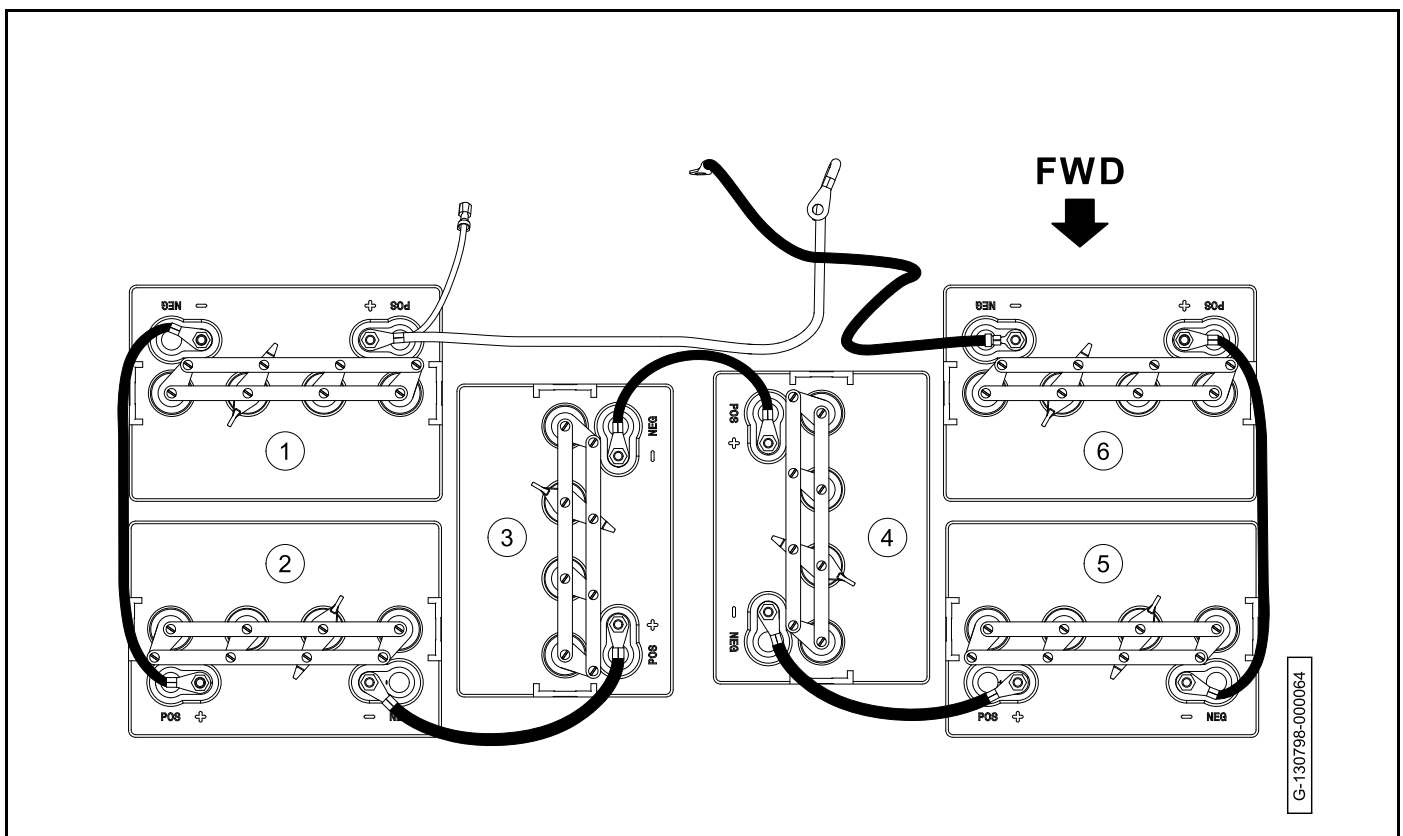

Figure 12-5
7. Put the red (+) probe on the positive (+) post of battery number (1) (**Figure 12-5, Page 12-13**).